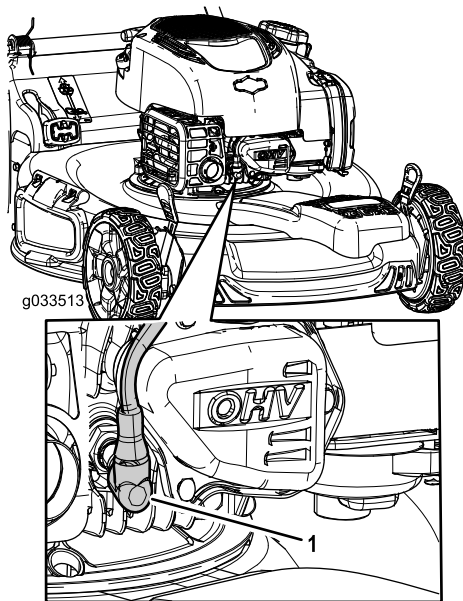

Figure 25
2. Disconnect the spark-plug wire from the spark plug (Figure 25).